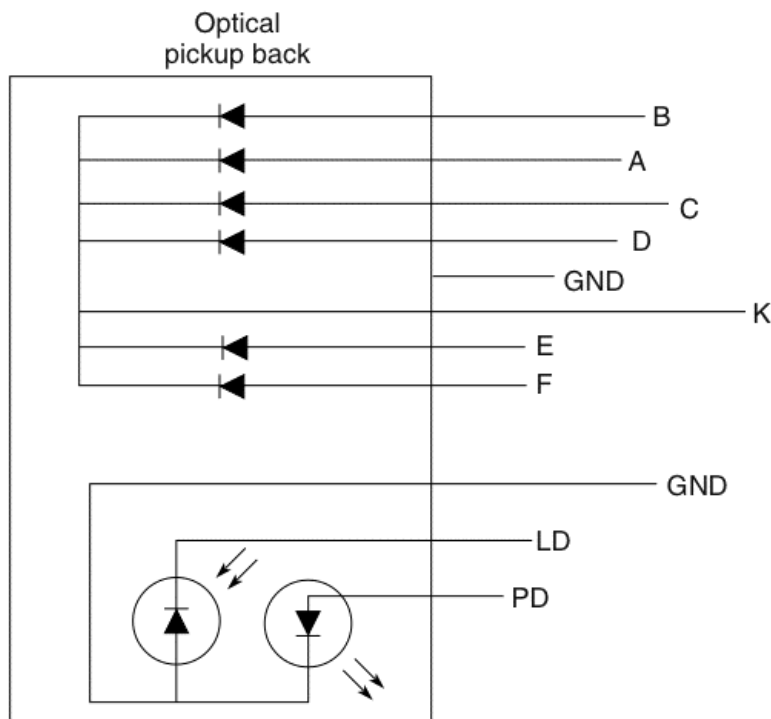

FIGURE 23-2 The optical pickup block (KSS-168 AKP) in this auto CD player.
The optical laser pickup assembly consists of the objective lens, focus-tracking coils, collimating lens, beam splitter, semitransparent mirror, photodetectors, monitor, and laser diode. The basic optical pickup block diagram shown in Fig. 23-2 illustrates four photodetectors (A, B, C, D), two tracking photodetectors (E and F), the focus and tracking coils, monitor diode (MD), and laser diode (LD).